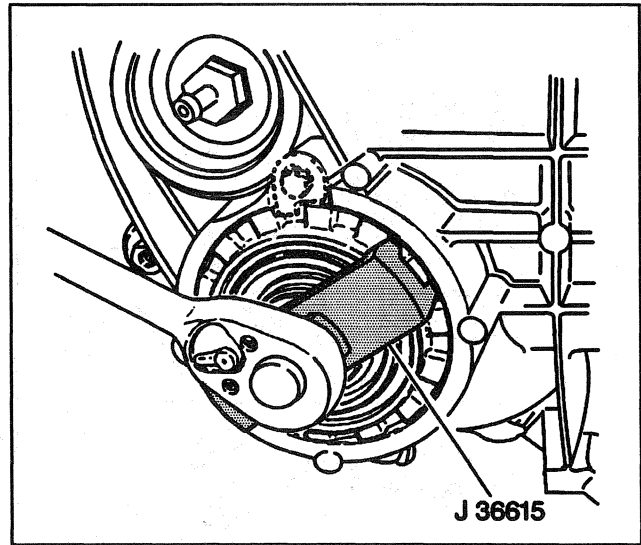

Figure 15—Turning the Adjuster Plug (K3 Models)
21. Bolt and lock (K3 models) (Figure 15).
23. Adjuster plug with side bearing cup and O-ring seal (K3 models). Use J 36615 (Figure 15).